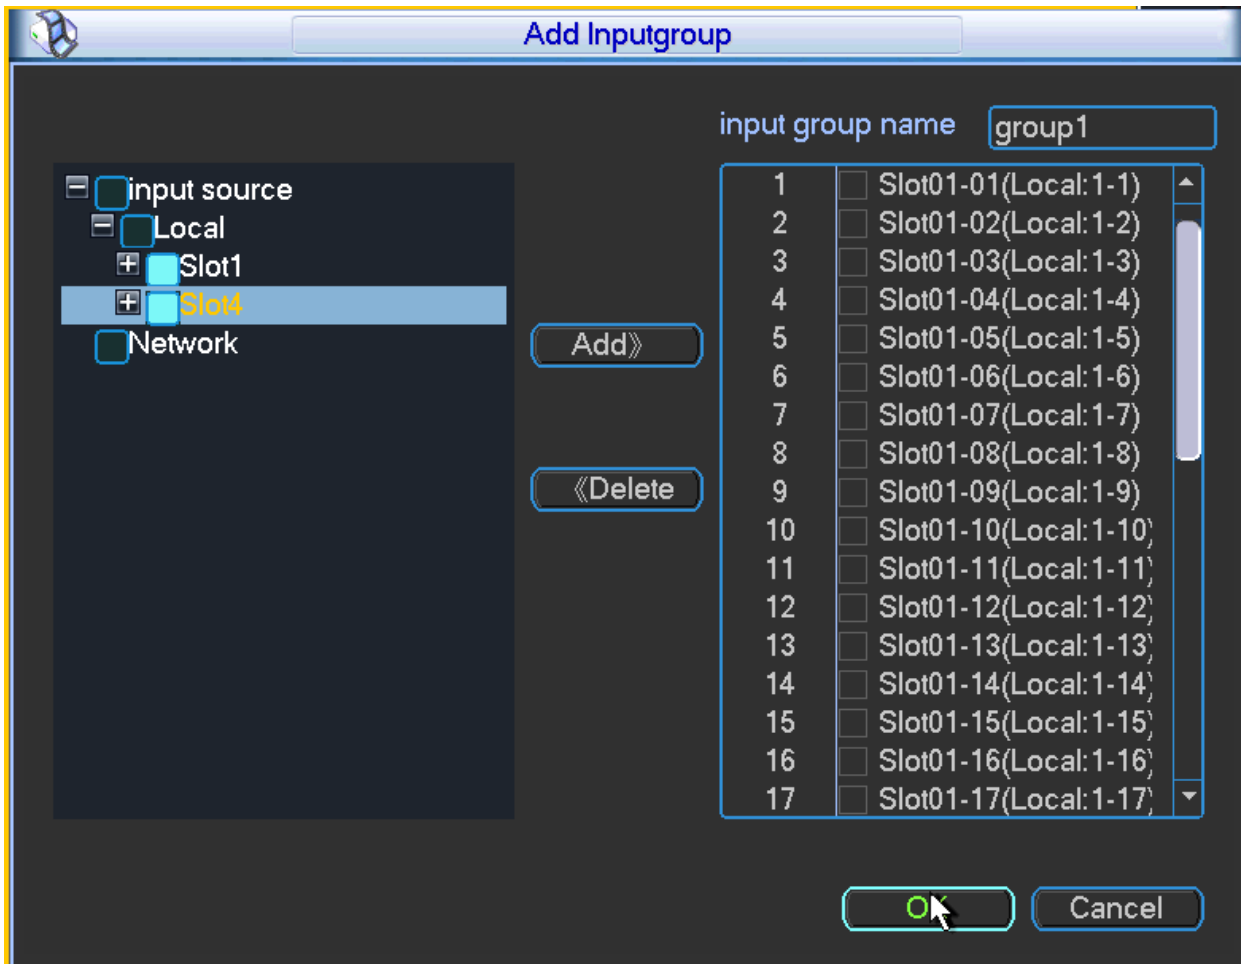

Figure 3-12
Step 4 Fill in “Input Group Name” and click “OK”, as shown in Figure 3-12.